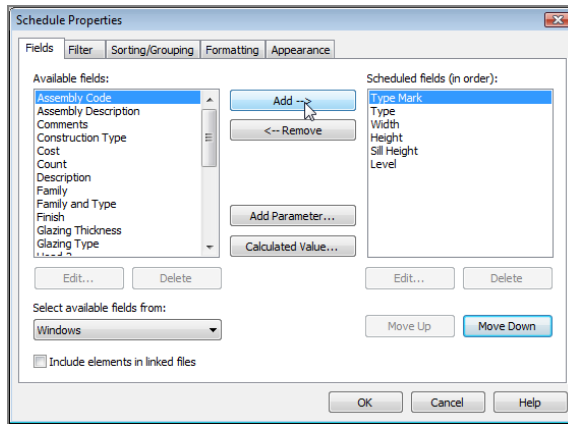

FIGURE 11.22: Adding fields to the schedule
3. In the Schedule Properties dialog box, add the following fields (see Figure 11.22):